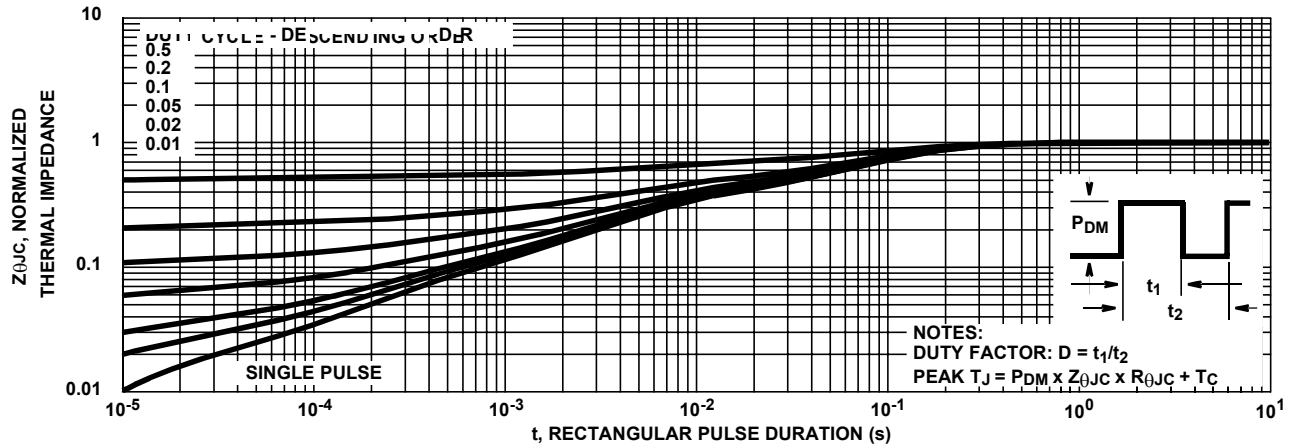

FIGURE 11. NORMALIZED MAXIMUM TRANSIENT THERMAL IMPEDANCE
- 2. Repetitive rating; pulse width limited by maximum junction temperature (See Figure 11)